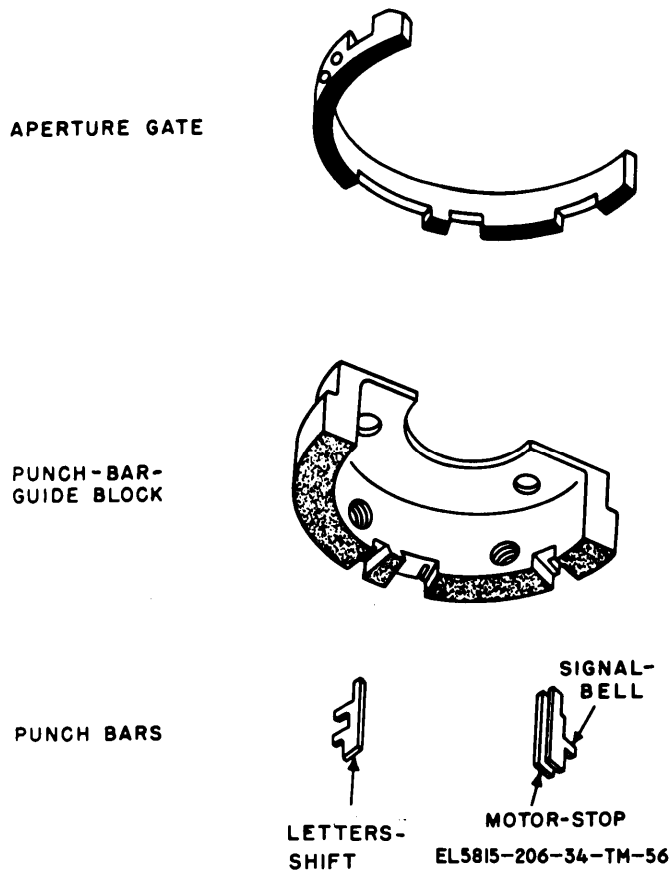

Figure 2-56. Punch-bar-guide block assembly, exploded view.
(b) The function-selecting arm stops at a point adjacent to a notch in the punch-bar-guide block (fig. 2-56). When stopped at this point, carriage-feeding (para 2-22) is prevented and the carriage remains motionless when the line-feed operation occurs.
a. *Selection of Signal-Bell Operation.* When the letter S code group is received and the transfer operation occurs, the first and third code rings are set to the marking position and the second, fourth, and fifth code rings are set to the spacing position. The code rings form a groove in line with the S stop bar, which stops rotation of the square-shaft stop arm. When the square-shaft is stopped in this position, the type-selecting arm is in line with the connecting bar which is geared to the S type bar, and the function-selecting arm (fig. 2-27 and 2-30) is in line with the signal-bell punch bar in the punch-bar-guide block (fig. 2-56).
*a. Selection of Motor-Stop Operation.* When the transfer operation occurs after the letter H code group is received, the third and fifth code rings are set to the marking (clockwise) position and the first, second, and fourth code rings are set to the spacing (counterclockwise) position (para 2-21). The code rings form a groove in line with the H stop bar. The H stop bar moves into the groove to halt rotation of the square-shaft stop arm. When the stop arm is halted at this point, the type-selecting arm is in line with the connecting bar that is geared to the H type bar, and the function-selecting arm (fig. 2-27 and 2-30), is in line with the motor-stop punch bar in the punch-bar-guide block (fig. 2-56 and 2-57).